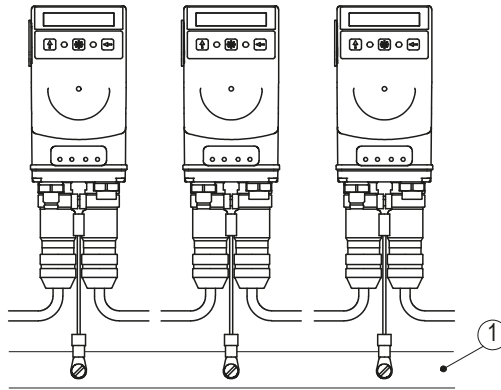

Fig. 3: Ground bar
For protection against interference, the screens of the signal lines and the power line must be connected on both sides. Potential differences cause inadmissible currents on the screen. Install the ground connection ⑤ onto the protective ground conductor potential between the plug connectors (see Fig. 2). Use 6.3 mm flat connectors or cable lug with short strands 2.5 ... 4 mm2 (not in the scope of delivery). For multiple position indicators we recommend connecting the grounding to a ground bar ① (see Fig. 3).